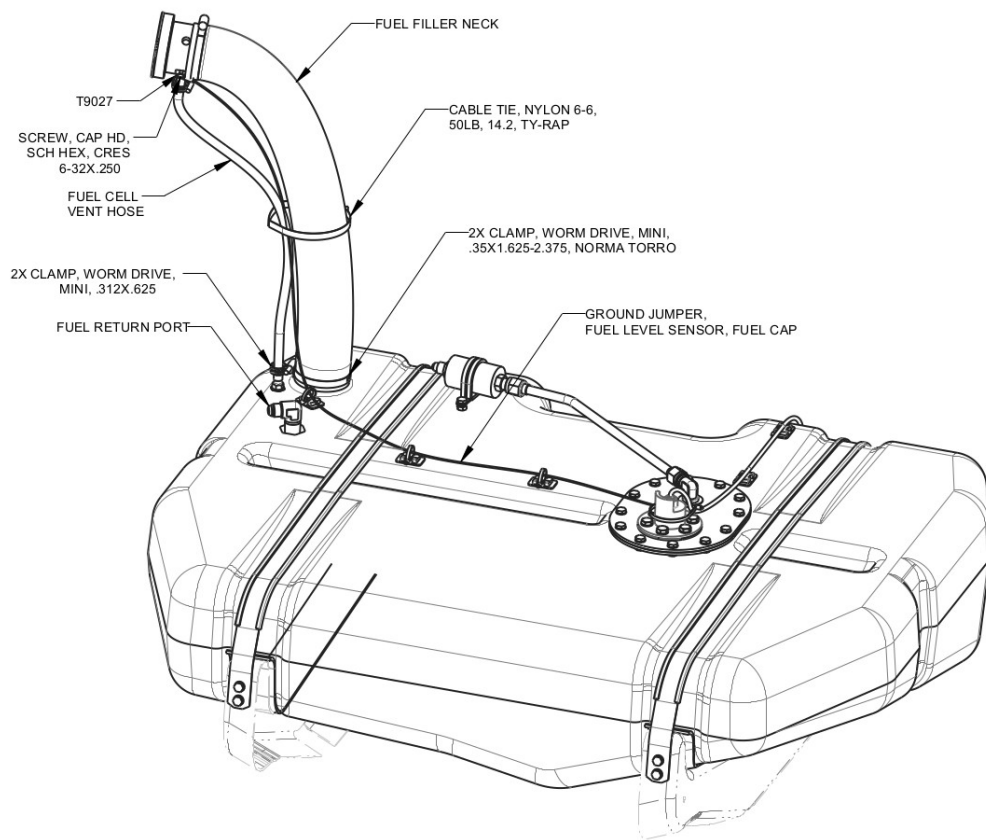

FIGURE 10-3
10. Remove #6-32 screw securing the T9027 terminal on the fuel cap adapter. (See Figure 10-3.)
13. Disconnect fuel return line from the elbow fuel return port in the tank using a 11/16 wrench. (See Figure 10-3.)
15. Remove worm drive clams from both ends of the fuel filler neck. (See Figure 10-3.)
17. Disconnect fuel sump hose by prying off its clamp and pulling the hose off the barb. (See Figure 10-3.) Remove fuel filler hose completely.